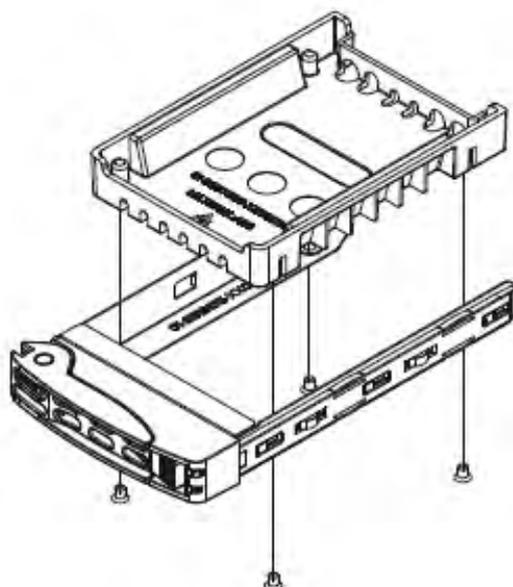

Figure 6-10. Mounting a Hard Drive in a Carrier
2. Secure the drive to the carrier with four screws, as shown in Figure 6-10.